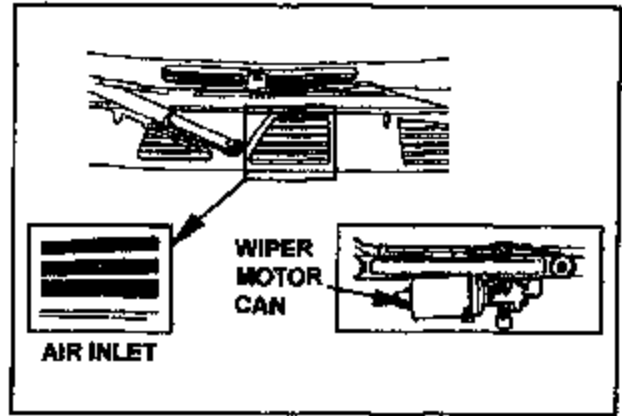

Figure 1
1. Using a flashlight, look down through the air inlet screen at the location shown (see figure 1).
- If the color of the can on the wiper motor is **SILVER** (see figure 1), no repairs are required on the vehicle, proceed to the section titled, **APPLYING THE CAMPAIGN LABEL**.
- If the color of the can on the wiper motor is **BLACK** (see figure 1), proceed to the section titled **REPAIR PROCEDURE**.